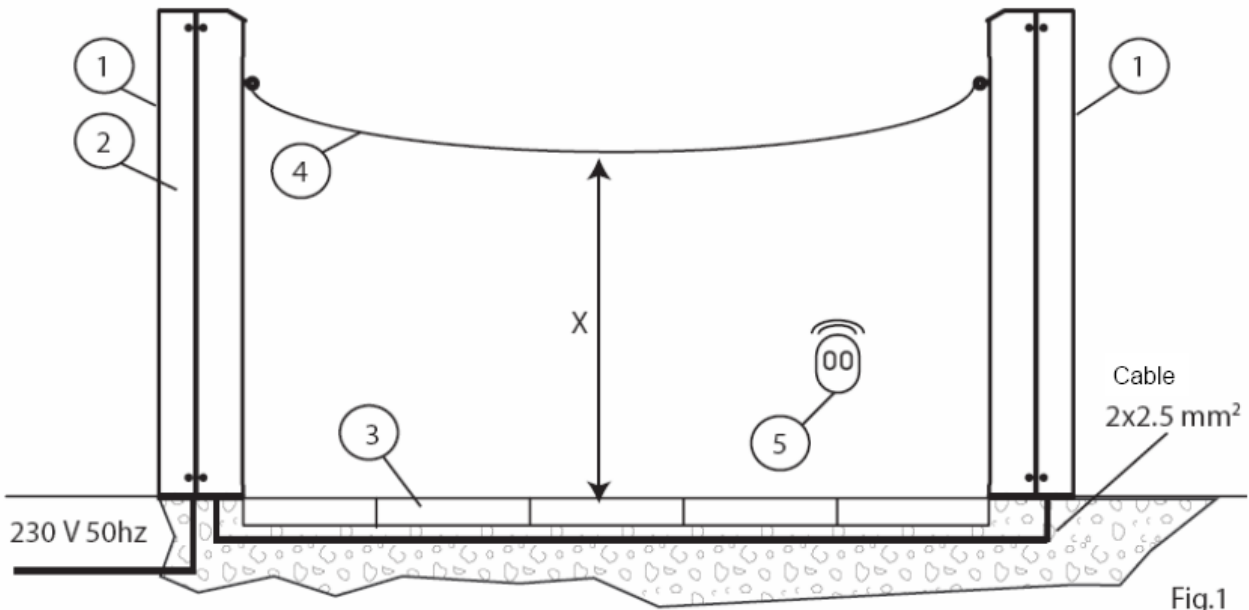
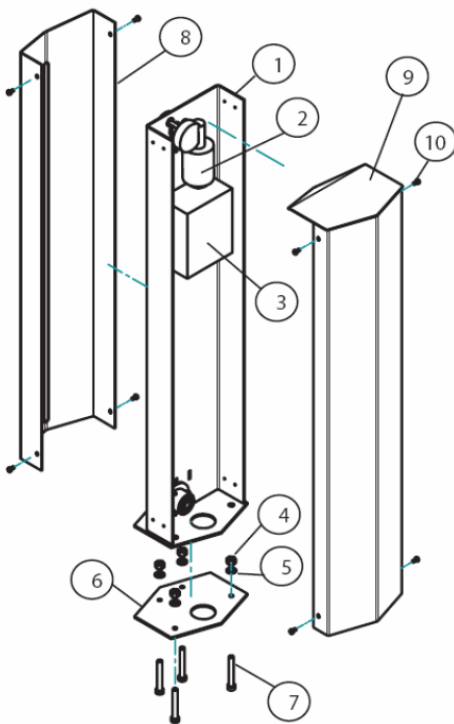

Fig.1
Fig.4
3.2. Installation of the column (Fig. 1, Fig. 3, Fig. 4)
5. Unscrewing the 8 screws [10] take off the frontal [8] and the rear cover [9] of the column (Fig. 4)